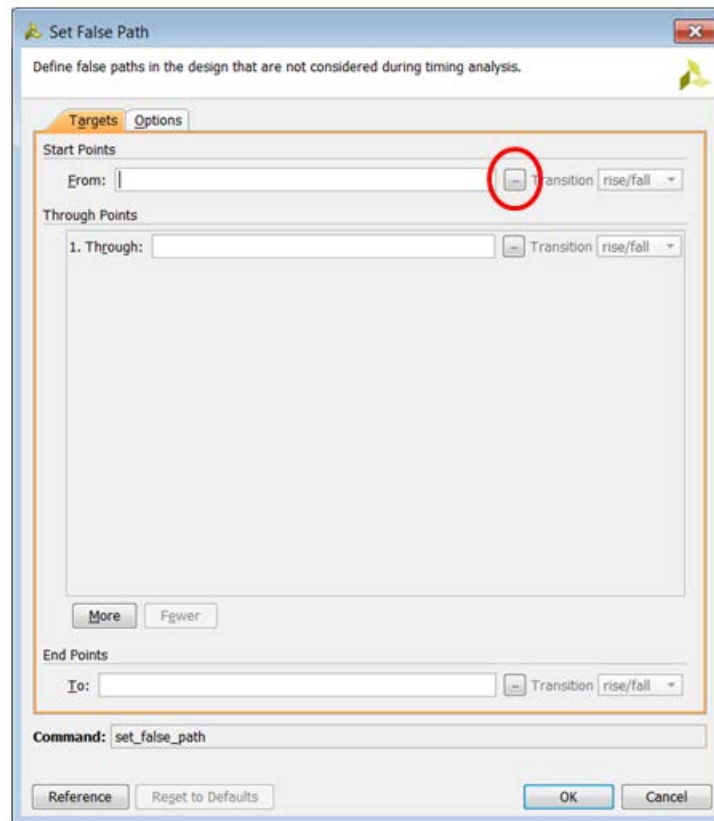

Figure 14: From Box
6. In the Set False Path window, to the right of the **From** text box, click the  button as shown in Figure 14.